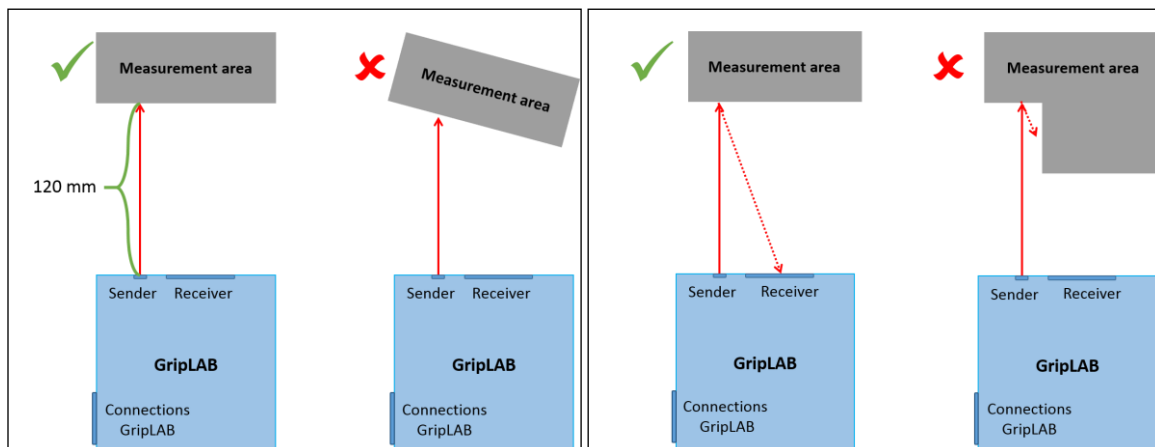

Figure 7: Regulations for measuring points
- The laser beam has to be perpendicular on the surface to be measured in the measuring point (see Figure 7).
- The laser beam must not be obstructed by any edge (see Figure 7).